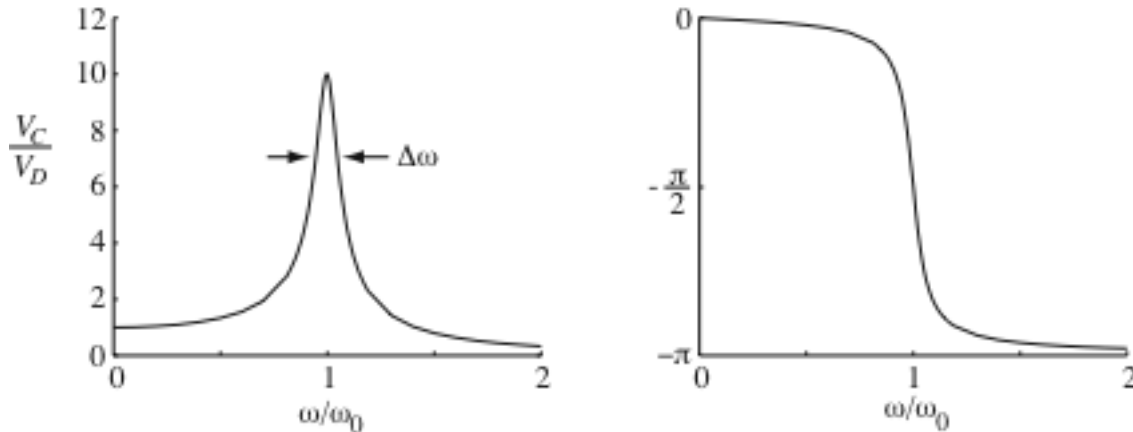
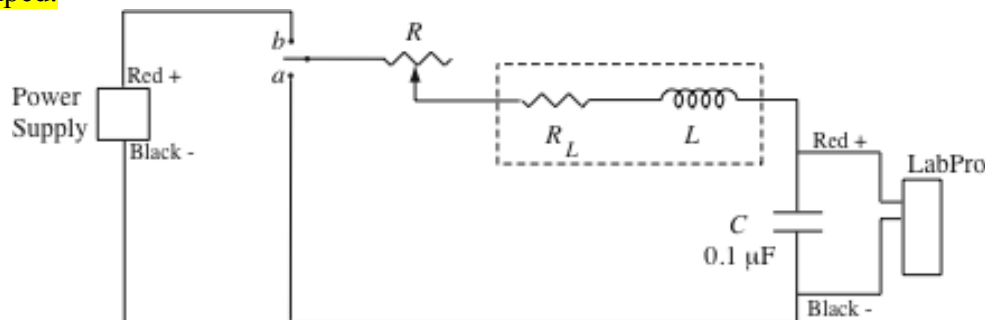
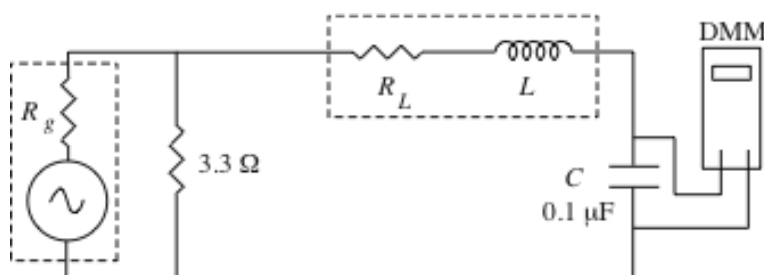
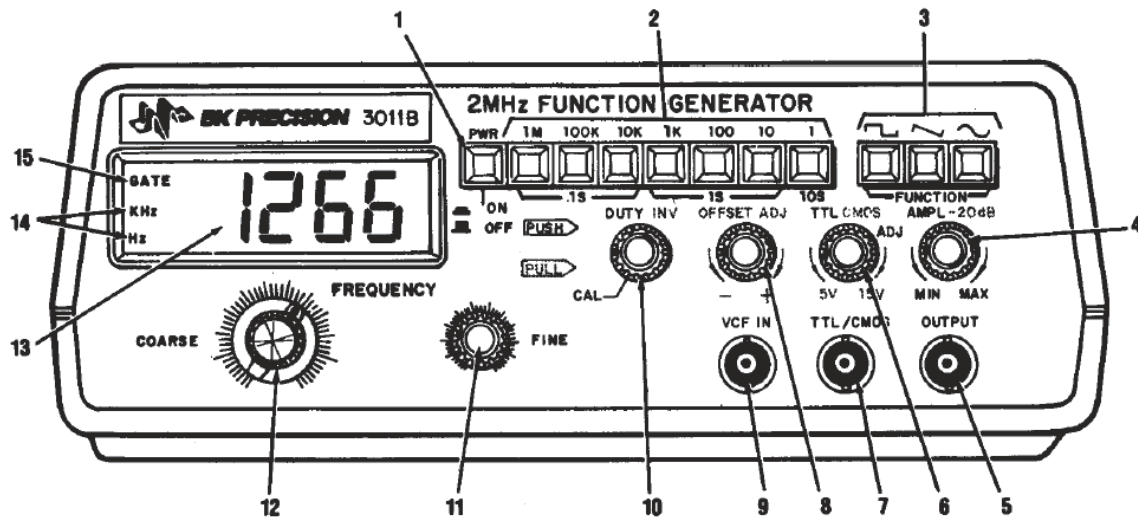

Fig. 3 Amplitude and phase of capacitor voltage as a function of frequency.
Figure 4: circuit to study free-oscillations.
Fig. 5 Circuit for measuring driven oscillations in an RLC circuit.
Fig. 6 The front panel of the function generator, with controls marked.
These two equations are plotted in Fig. 3, where we use the fact that $V_C = q_C/C$ to plot the maximum voltage across the capacitor relative to the maximum driving voltage. (Our apparatus
Since the shape of the peak in V_C characterizes the resonance, it is convenient to have some parameter to specify the sharpness of the peak. Traditionally, this is taken to be the full width $\Delta\omega$, shown in Fig. 3, at which the voltage or current has fallen to $1/\sqrt{2}$ of the peak value. The reason for this choice is that the power dissipation is proportional to I^2 , so these frequencies correspond to the points at which the power dissipation is half of the maximum. Using Eq. 9 we find that the width is related to τ by
To study the “free oscillations case” we will use LoggerPro to record the voltage across the capacitor as a function of time. The required circuit is shown in Fig. 4. Since the coil is not made with superconducting wire, we account for the wire resistance with R_L . **The variable resistor (use the one with 20 k Ω , 10 turns, on the circuit panel), shown on Fig. 4 by a resistor symbol with an arrow in the middle on the circuit box, should be set initially to the minimum possible resistance.** (You can use the DMM in ohmmeter mode to check that the
To study the driven solution we need to use a sine-wave signal source whose operation is explained below in Fig. 6. The real function generator is equivalent to an ideal sine-wave generator in series with a $R_g = 50\ \Omega$ resistor. R_g is labeled in Fig. 5. See Page 7 for details for operating the sine-wave generator. Since R_g is large enough to affect the damping of the circuit, we add the $3.3\ \Omega$ resistor in parallel to reduce the effective resistance of the generator. The other change from Fig. 4 is to replace the LabPro (The box that is connected to the computer you used in the free-oscillations portion of the lab) with a **DMM (The orange box), set to read AC voltage**. For this part of the experiment, you will have to manually read out and record the voltage across the capacitor. (The DMM can read AC voltages between about 30 Hz and 1000 Hz. It is unreliable outside of that range.) Also, there is no toggle switch in this circuit.
Connect the circuit as shown in Fig 5, and then vary the driving frequency to find the frequency at which V_C is maximized. This identifies the resonance frequency, in Hertz. Next, you should plot V_C as a function of frequency, taking care to get enough data around the resonance frequency to clearly define the curve. The resonance frequency should be close to $f_{resonance} = \frac{\omega_1}{2\pi}$. This goes very quickly if you enter f and V_C directly into **Graph.cmbl** and then pick data points to trace the regions of interest. Does your plot look like Fig. 3?
Figure 6 shows the control panel of the function generator most often used in this lab. The instrument is turned on with the power switch, item (1) in the figure. A sine, square or triangle waveform is selected with the buttons labeled FUNCTION (3). The frequency range is determined by pushbuttons (2), and the exact frequency is then set using the coarse and fine FREQUENCY knobs (12, 11, respectively). The output amplitude is determined by the AMPL knob (4). Pulling gently on the AMPL knob toward you decreases the output amplitude by a factor of 10. The display (13) shows the output frequency numerically in Hz or kHz, according to the indicator (14) and decimal point on the display. The selected output appears as a voltage at OUTPUT (5). The other controls and outputs are more specialized, and will not be used here.